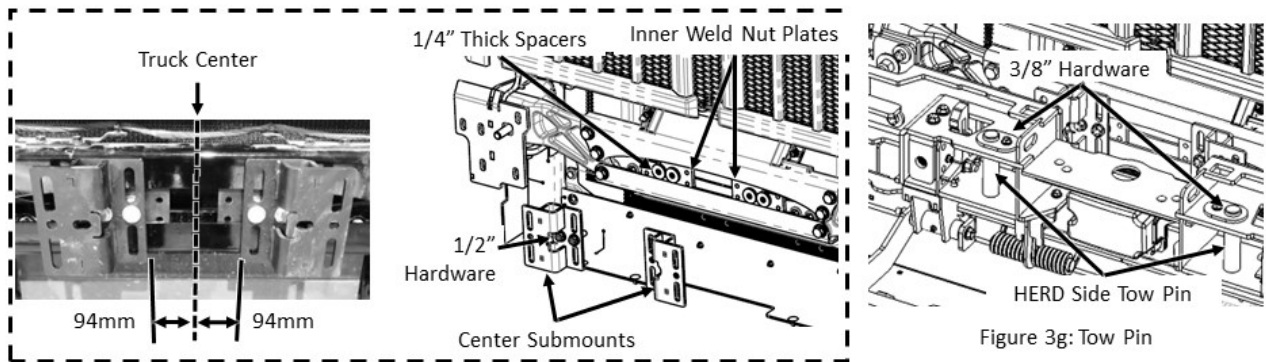

Figure 3e: HERD Center Submounts
5. Install Inner Welded Nut Plates, 1/4" Thick Spacers and Center Brackets to the OEM Center Crossmember in the order and position shown in Figure 3e. Use the provided 1/2" Hardware to fasten. **Torque the 1/2" Hardware to 96 ft-lb.**